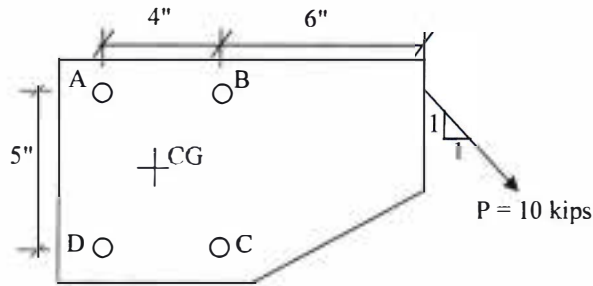

Figure 2
4. Use the elastic vector method to compute the resultant bolt shear forces at each bolt in the eccentrically loaded bolt group shown in **Figure 2**. All the bolts are of the same size. (15)